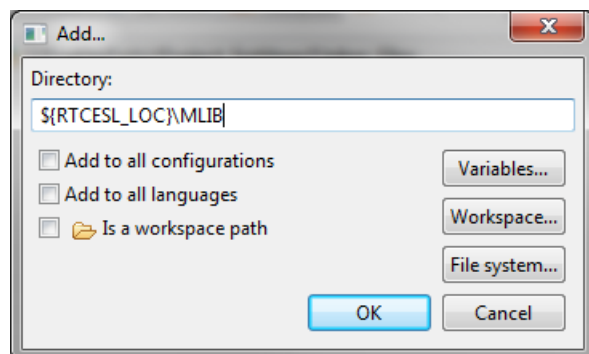

Figure 1-6. Library path inclusion
5. Look for the RTCESL_LOC variable by clicking Variables..., and then finish the path in the box by adding the following (see Figure 1-6): \${RTCESL_LOC}\MLIB.